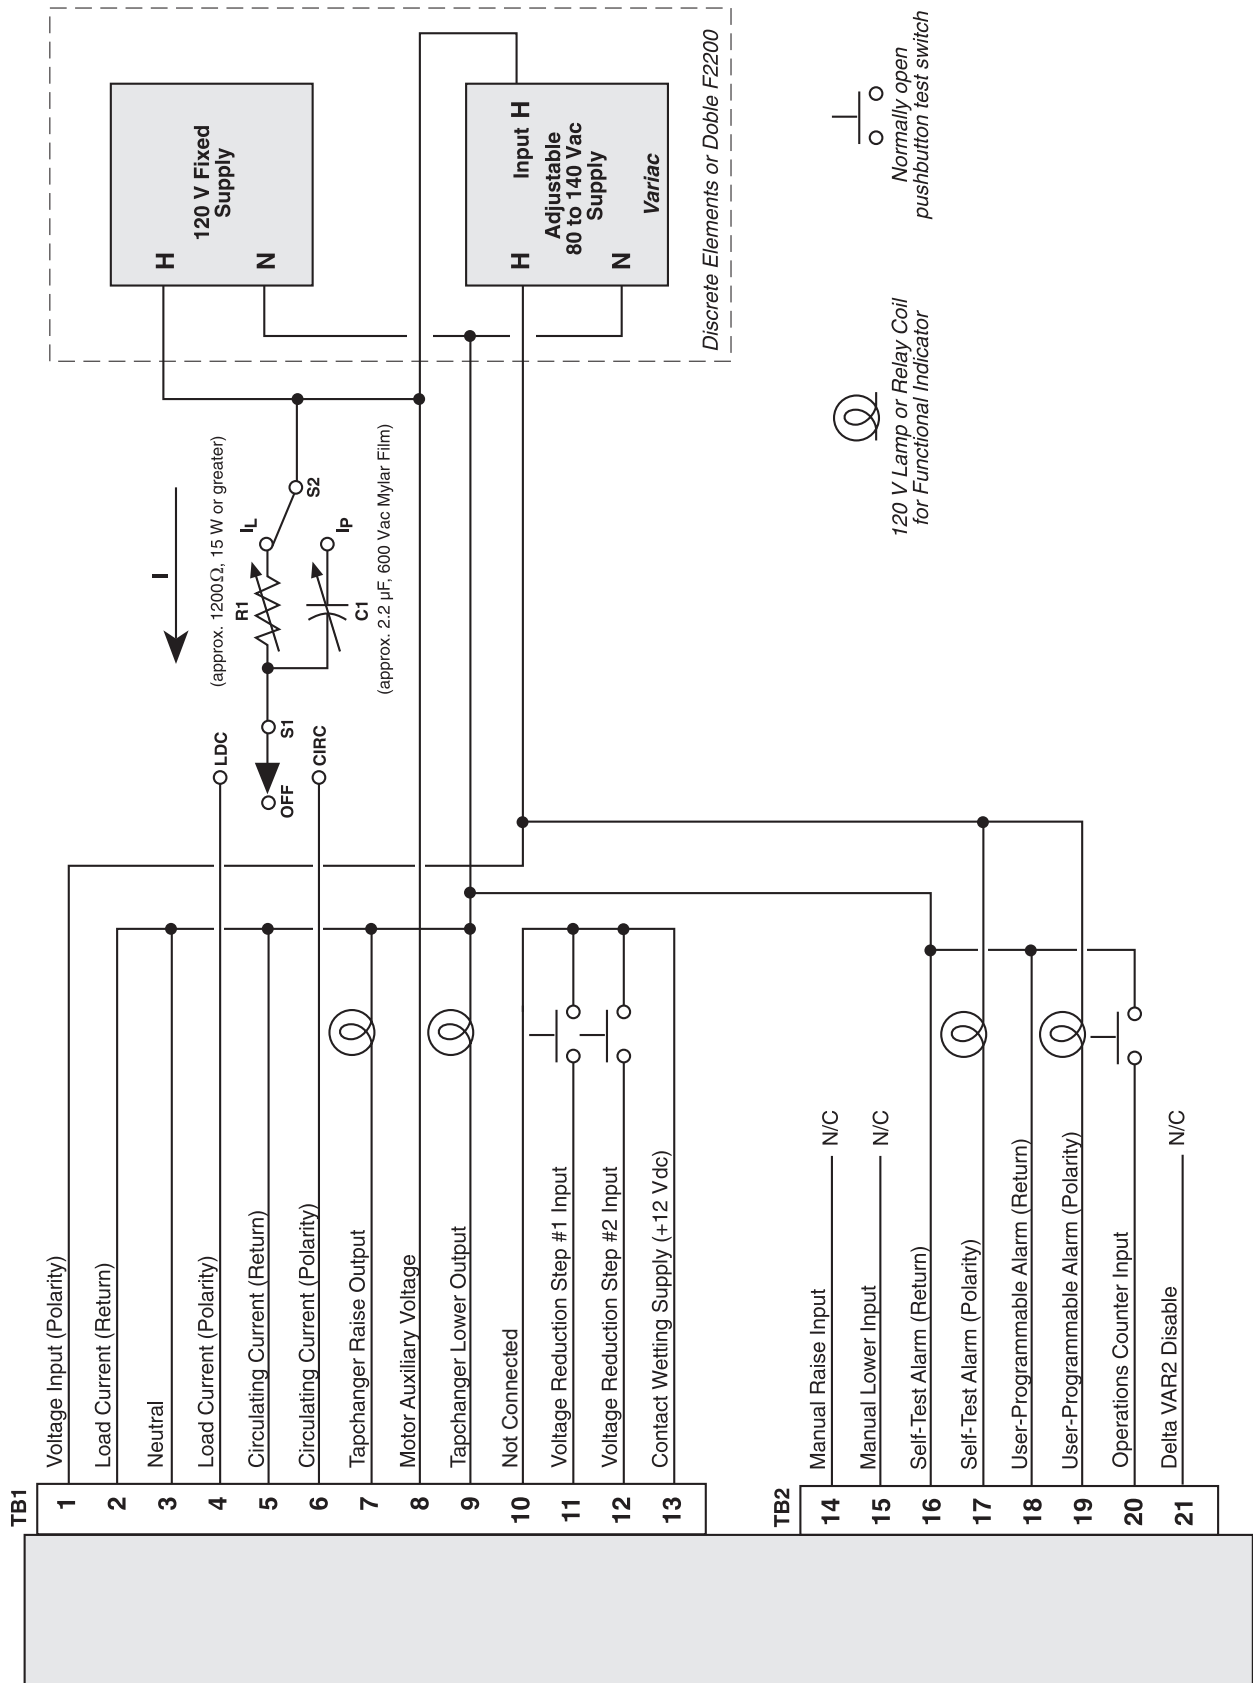

Figure 11 M-2069 Test Procedure External Connection
1. Make the electrical connections as shown in Figure 11.